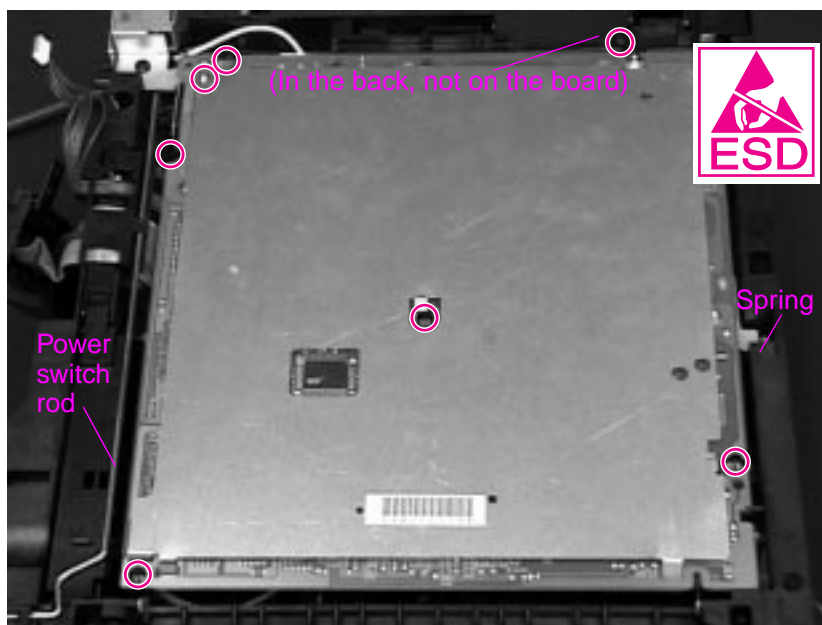

Figure 6-41 Removing the Engine Controller Board
3. Remove 7 screws (shown in Figure 6-41 on page 6-44):